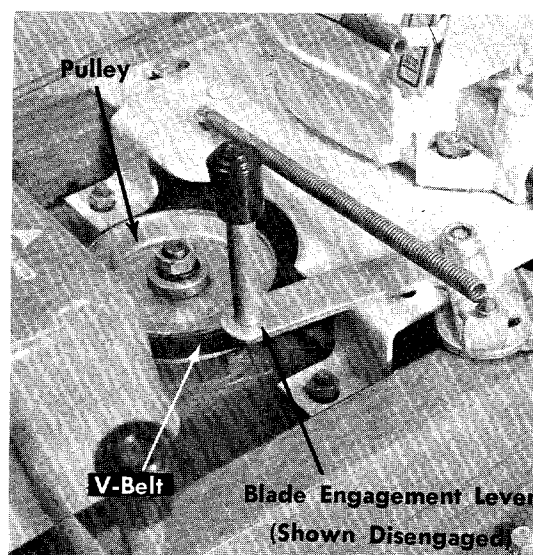
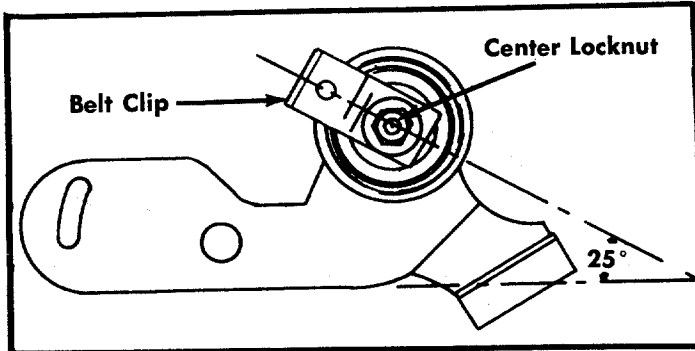

FIGURE 24. BLADE ENGAGEMENT LEVER
FIGURE 25. BELT IDLER
Step 5. Remove the belt from the transmission idler. See figure 24.
Step 5. Place the blade engagement lever in the engaged position (See figure 24.) and loosen the center locknut on the blade idler. See figure 25.
Use a 1/2" open end wrench. When installing the new belt be sure the belt clip is in the same position as shown in figure 25.